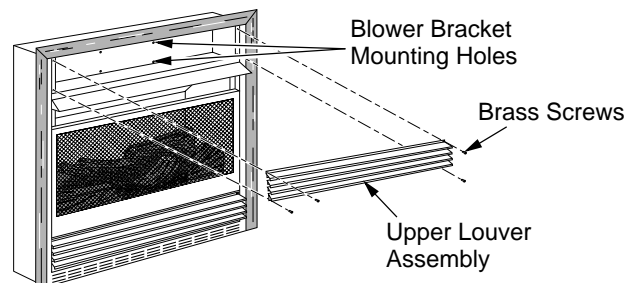
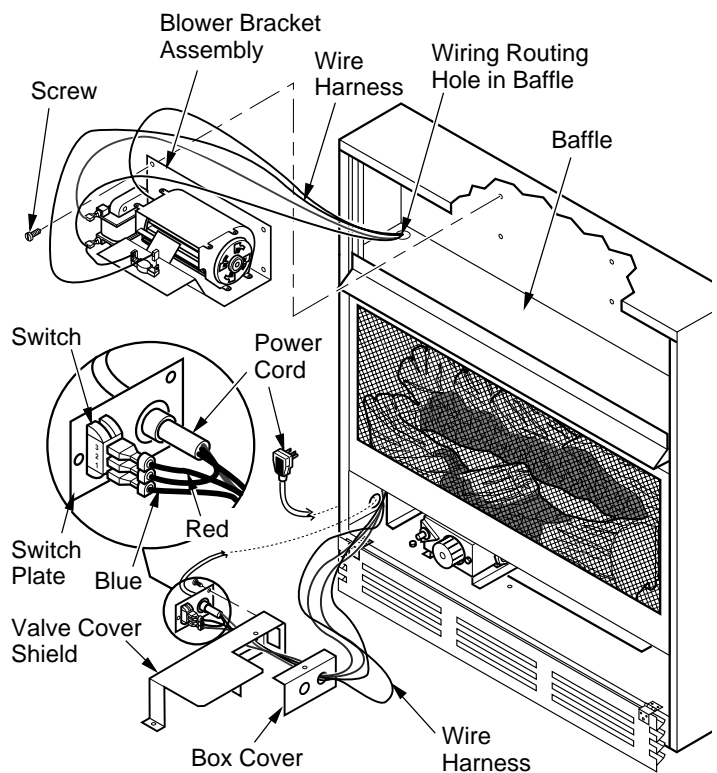

Figure 16 - Removing Upper Louver Assembly
Figure 18 - Installing Blower Bracket Assembly
2. Remove 4 screws from louver assembly (see Figure 16). Save these screws.
3. Note the wire locations on back of AUTO/OFF/ON switch. The terminals on back of switch are numbered 1, 2, and 3. Carefully remove red wire from terminal 1 and blue wire from terminal 3. Black wire can remain on middle terminal 2 (see Figure 18).
5. In top of the heater cabinet, locate the four mounting holes on the outer casing. Align these four holes with those on the blower bracket assembly. Attach blower bracket assembly to the outer casing with 4 #10 screws provided (see Figure 18).
6. Route the wire harness through the hole in left side of baffle. Pull wire harness through lower opening above where the valve shield was removed. (see Figure 18).
7. Insert the 4 wire harness into one of the round holes in the rear of the valve cover shield and through the rectangular hole in the front of shield (see Figure 18).
- Install the switch plate on the valve cover shield with 2 #10 screws provided (see Figure 18, page 12). Reinstall the valve cover shield. Route power cord out of the cabinet by inserting it through the bushing on the outer casing (see Figure 18, page 12). Plug fan kit into 120-Volt grounded power supply and test operation. **Note:** When switch is in the AUTO position, the fan will start after the heater has run for a few moments. The fan will continue to run for several moments after the heater has been turned off. When switch is in the ON position, the fan will run until turned to OFF. Reinstall upper louver assembly and hood if previously removed, (see Figure 16, page 11). Close lower louver door.